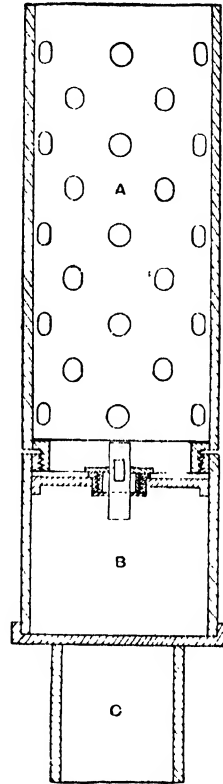

Fig. 568.—Lamp lighter's Torch.
**Lamplighter's Torch.**—A lamplighter's torch is shown by Fig. 568, in which A is a brass barrel perforated, B is a cylinder of the same diameter, with a metal disc edged up and soldered to the bottom. A second disc, which carries an ordinary circular-wick lamp burner, is soldered inside the cylinder about three-eighths from the top, the space between the two discs forming the oil reservoir. A threaded socket and collar are soldered to the cylinders, as shown, so that the cylinder A can be removed when filling the reservoir or when lighting the lamp. When in use, the lamp is lit and A screwed on securely; the perforated barrel is then inserted in the gas lamp, and the gas percolates through the holes in the barrel until it reaches the flame, when ignition occurs. C is a round brass socket in which the pole for carrying the torch is inserted.